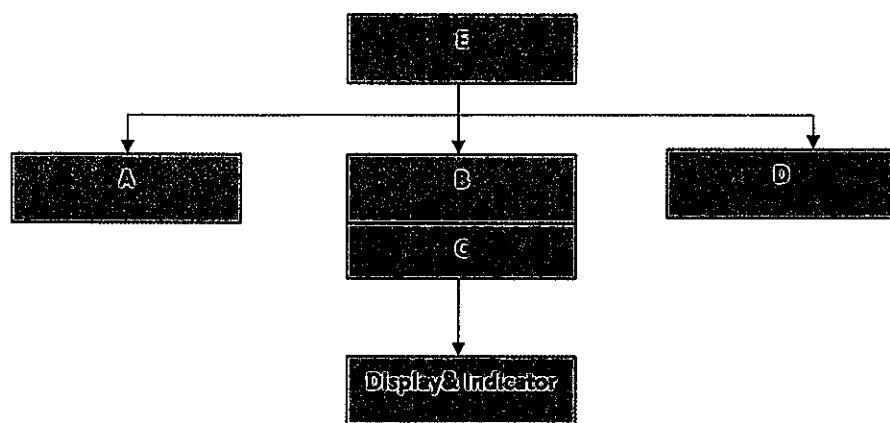

Figure A3(a) / Rajah A3(a)
- CLO1 (a) Fill in the parts marked A, B, C D and E to complete the PLC building structure by referring to Figure A3(a).